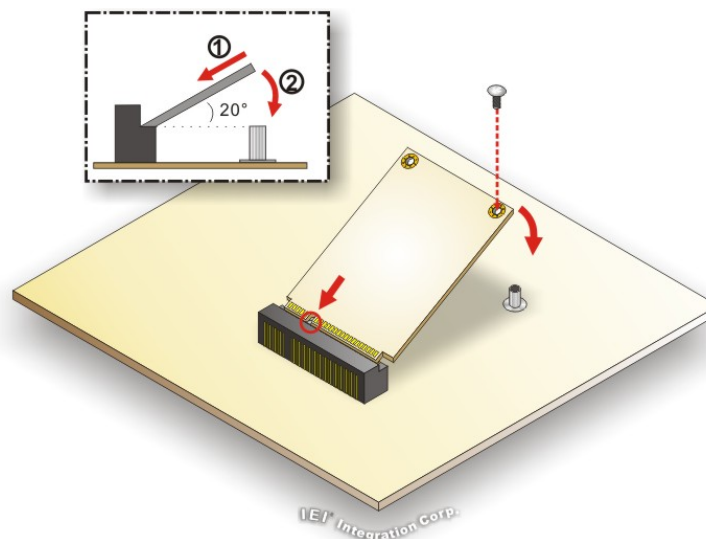

Figure 3-3: mSATA Module Installation
- Step 4:** Secure the mSATA module with the retention screw. Push the other end of the mSATA module down and secure the module with the previously removed retention screw (**Figure 3-3**).
Step 3: Connect the SATA DOM with the SATA connector on the motherboard to install it. Either high-profile or low-profile SATA DOM can be installed into the PPC-F06B-BT. **Figure 3-3** shows that the system is installed with a high-profile SATA DOM.